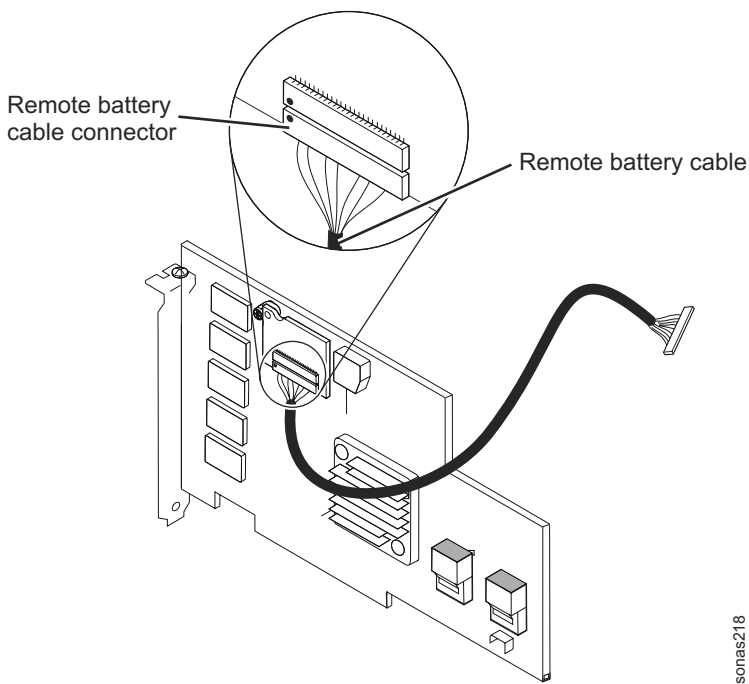

Figure 34. Disconnecting the remote battery cable
- b. Lift the battery and battery carrier from the tray and carefully disconnect the remote battery cable from the interposer card on the ServeRAID controller. See Figure 34.